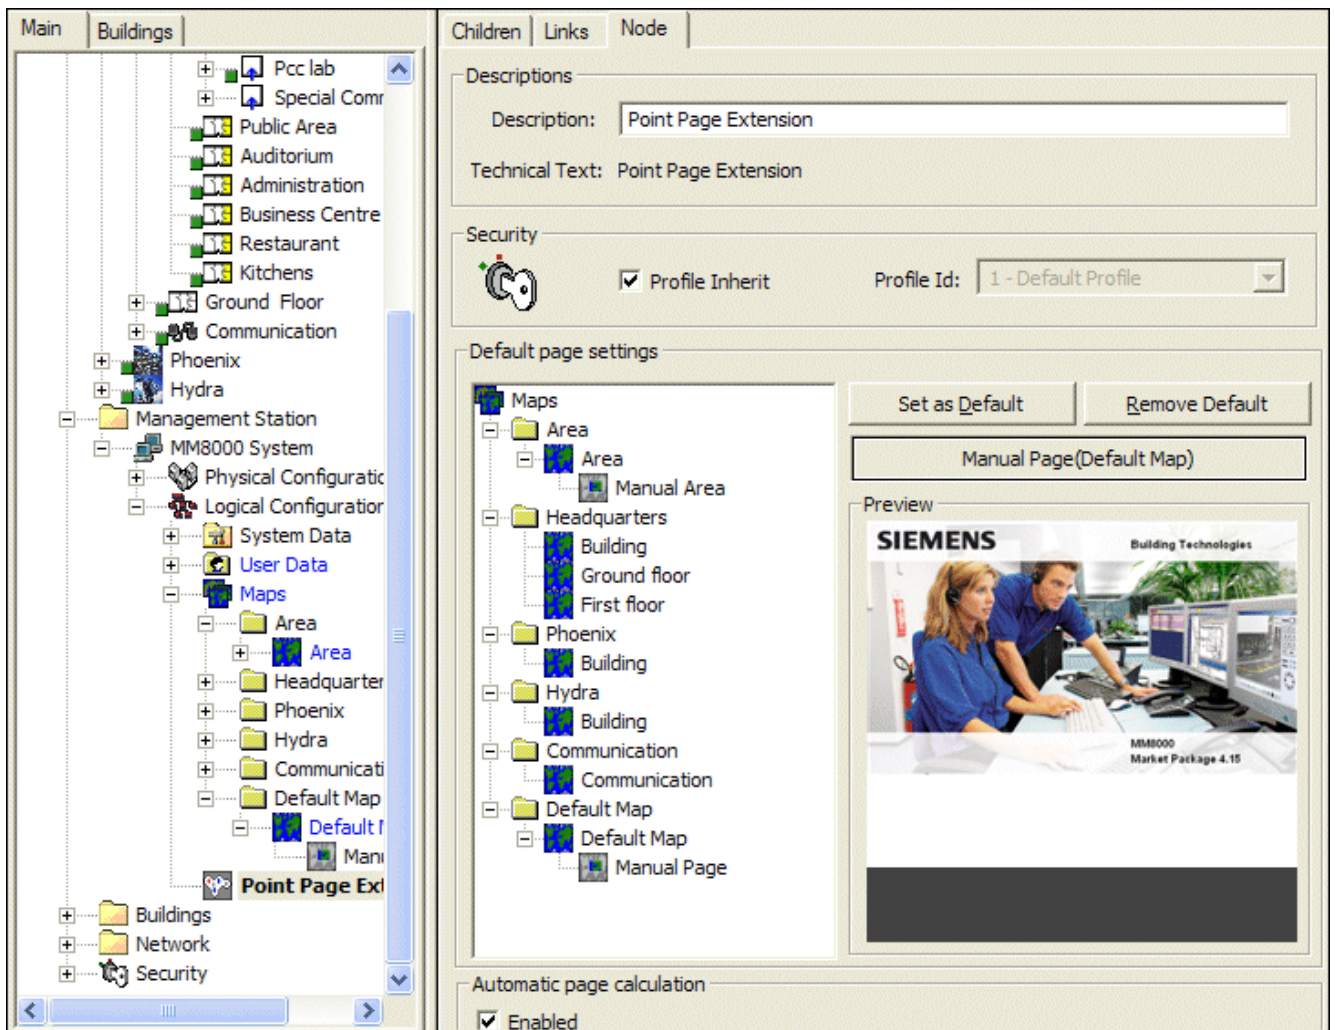

Fig. 30 Setting the default page
4. Select **Set as Default** (see Fig. 30).